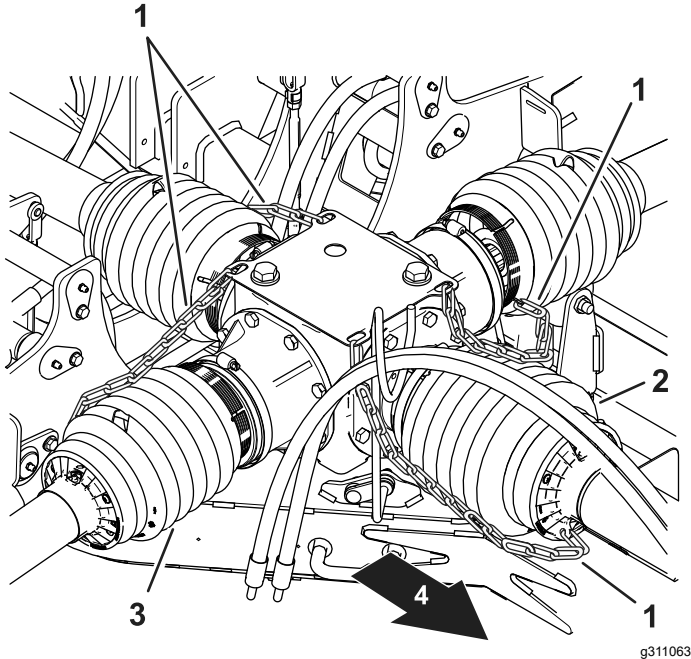
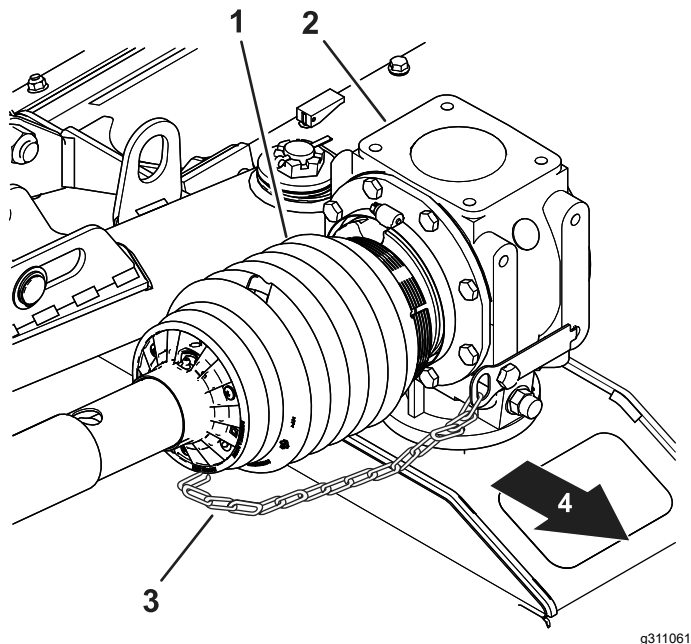
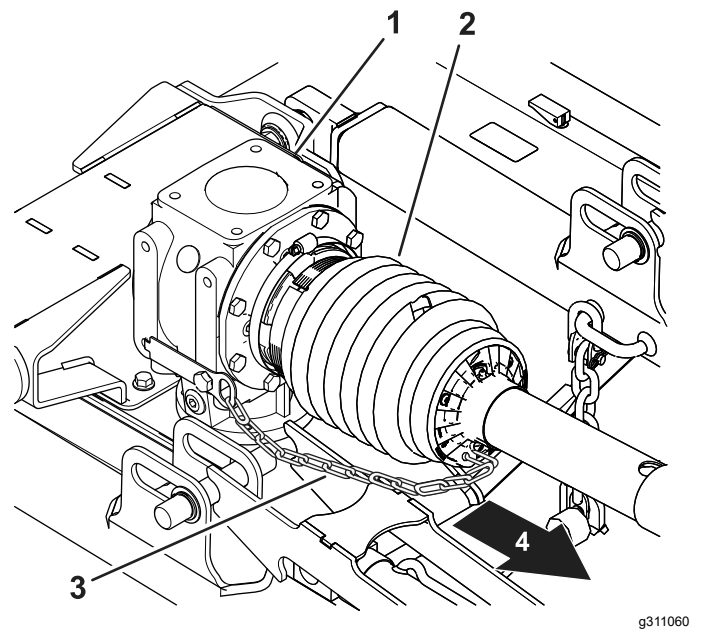
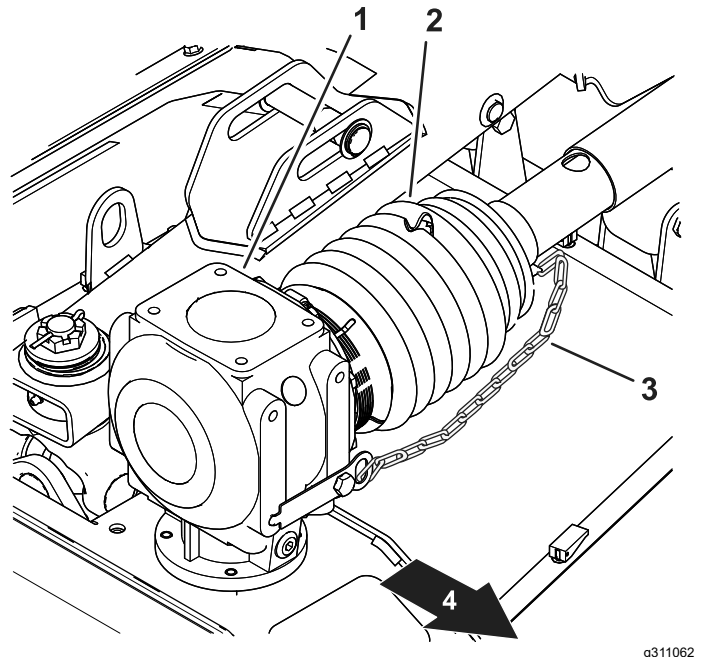

Figure 18
Figure 19
Figure 20
Figure 21
6. Check that the restraint chains for the driveshaft guards are connected to center gearbox and the gearboxes on each mower deck (Figure 18, Figure 19, Figure 20, and Figure 21).